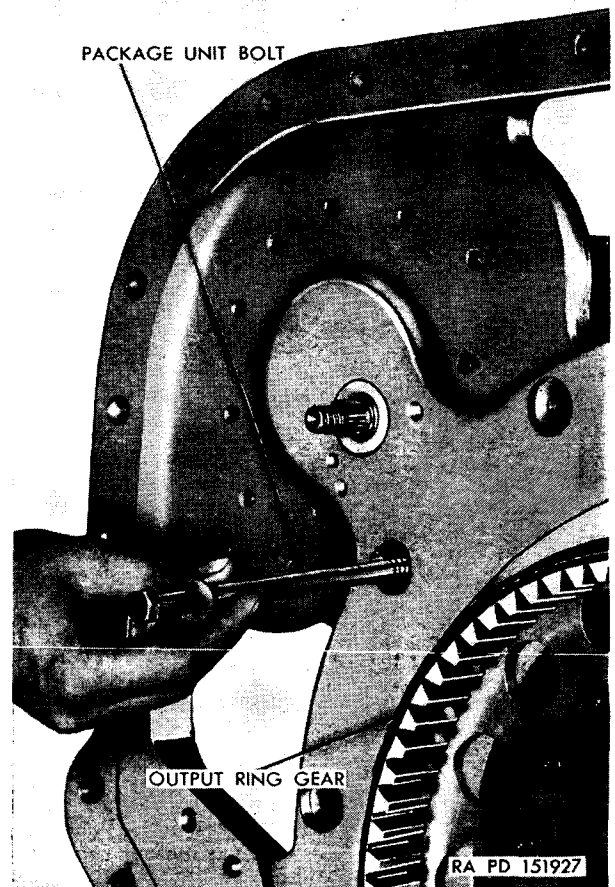

Figure 188. Removing package unit bolts.
- (4) Using a ⅝-inch wrench, remove 10 of the 12 package unit bolts that extend through the end plate, package unit, and the reverse-range cover assembly (fig. 188), leaving two bolts 180 degrees apart on the bolt circle. Loosen, but do not remove, the remaining two bolts.
- (5) Lower the end plate assembly to the assembly table, resting the assembly on the output-ring gear.